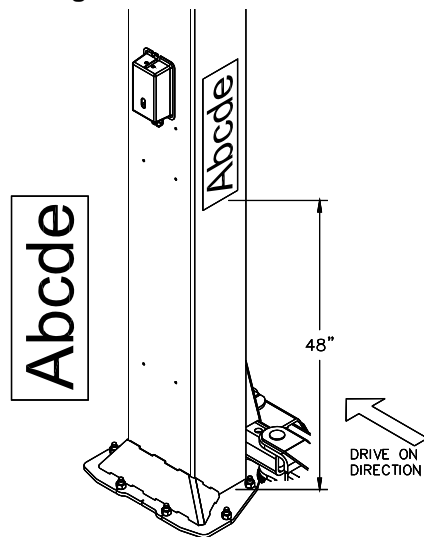

Fig 8 – Decal Placement
- 29) Refer to **Fig 8 Wiring Diagram** for all steps under this heading.
37) Apply the decal 48" from the top of the base plate, **Fig 8**.